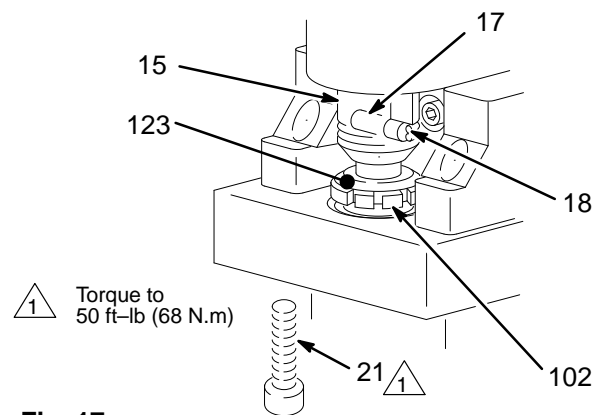

Fig. 17
- a. Remove the pump connecting rod pin (17). See Fig. 17, page 21.
11. **Break in the brushes.** Operate the sprayer for at least one hour with no load. Install the pump connecting rod pin. See Fig. 17, page 21.
Be sure the retaining spring (18) is firmly in the groove all the way around, to prevent the pin (17) from working loose due to vibration. See Fig. 17.